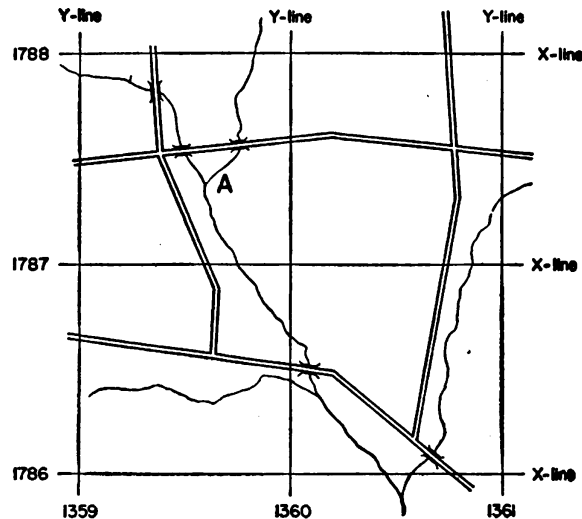

FIGURE 206.—Rectangular coordinates; 1,000-yard grid printed on a terrain map (1 : 20,000 scale). (Not reproduced to scale.)
**123. Location of position by coordinates.**—*Q.* How are military maps divided? *A.* Into squares 1,000 yards on a side by two sets of parallel lines, one of these sets being at right angles to the other. (See fig. 206.)
*Q.* Describe the grid system for the continental United States. *A.* The country is divided into zones running north and south, each covering  $9^\circ$  of latitude. The central true meridian of adjacent zones are  $8^\circ$  apart, hence there is an overlap of  $1^\circ$  at the boundaries, included in both adjacent zones. The west longitudes of the central meridians of the zones are  $73^\circ$ ,  $81^\circ$ ,  $89^\circ$ ,  $97^\circ$ ,  $105^\circ$ ,  $113^\circ$ , and  $121^\circ$ . In each zone the *Y* lines are all parallel to the central true meridian. The direction of the *Y* line at any point is called grid north; it is the same as true north only at the center of the zone. The *X* lines are perpendicular to the *Y* lines, and so they are true east and west lines only at the center of the zone. In each zone the origin of coordinates, or zero point, is to the west and south of the zone, and hence all coordinates are positive. (See fig. 206.)
*Q.* How many norths are indicated on an artillery map? *A.* Three: true north, magnetic north, and grid north. (See fig. 206.)
(1) True north is geographic north, or the direction of the north pole.
(2) Magnetic north is the direction in which the compass points when used in the area covered by the map. The angular difference between true north and magnetic north is called the magnetic declination.
(3) Grid north is the direction in which the *Y* lines of the coordinate system point.